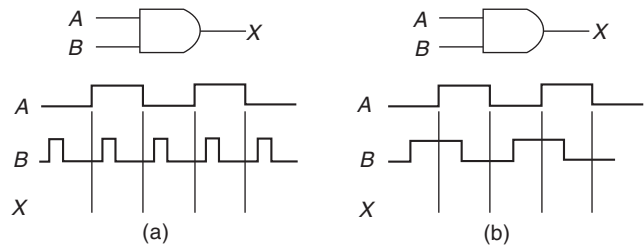

Fig. 4.9
4.11 Sketch the output waveform at X for the two-input AND gates shown in Fig. 4.9.